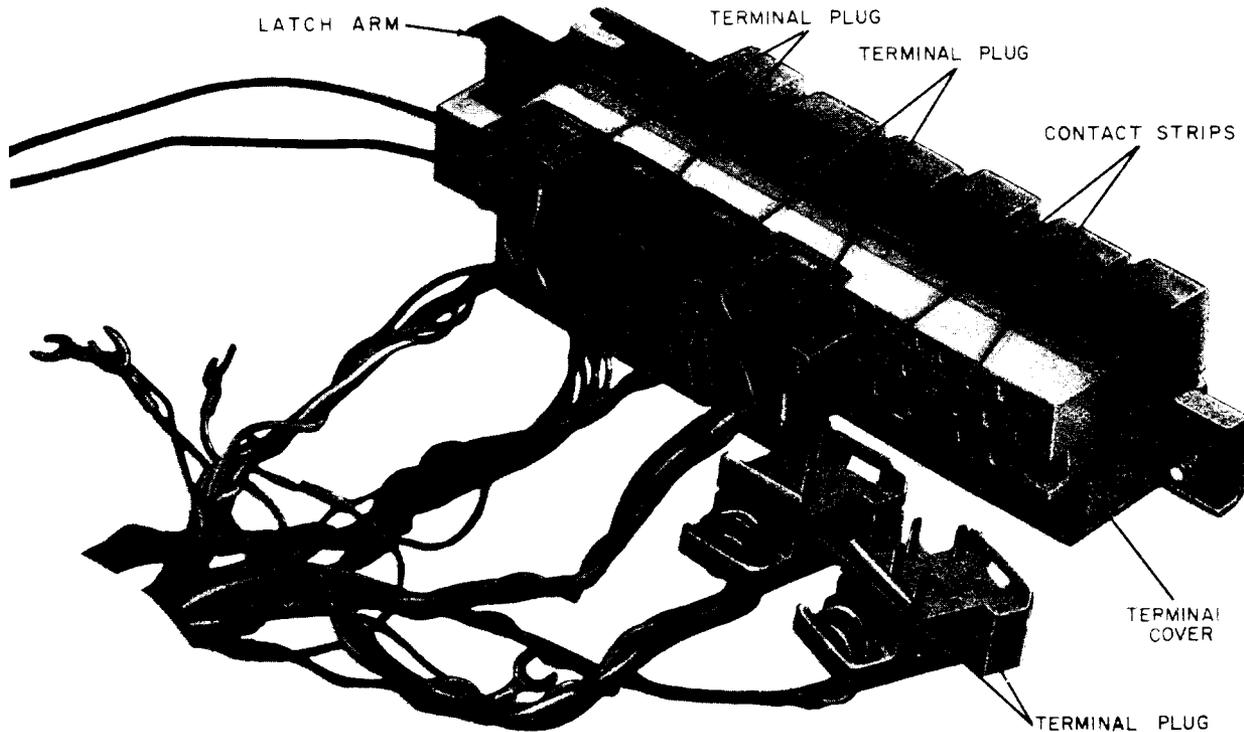

Fig. 8—Typical Connections to 635-Type Key
- (1) Loosen captive screws at each end of key module.
- (2) Lift key out of key frame disengaging key latch arm from pivot bar.
- (3) Turn key counterclockwise and unplug 508-type and 509A plugs (Fig. 8).
(2) Connect 508-type and 509A plugs to proper receptacles (Fig. 8).